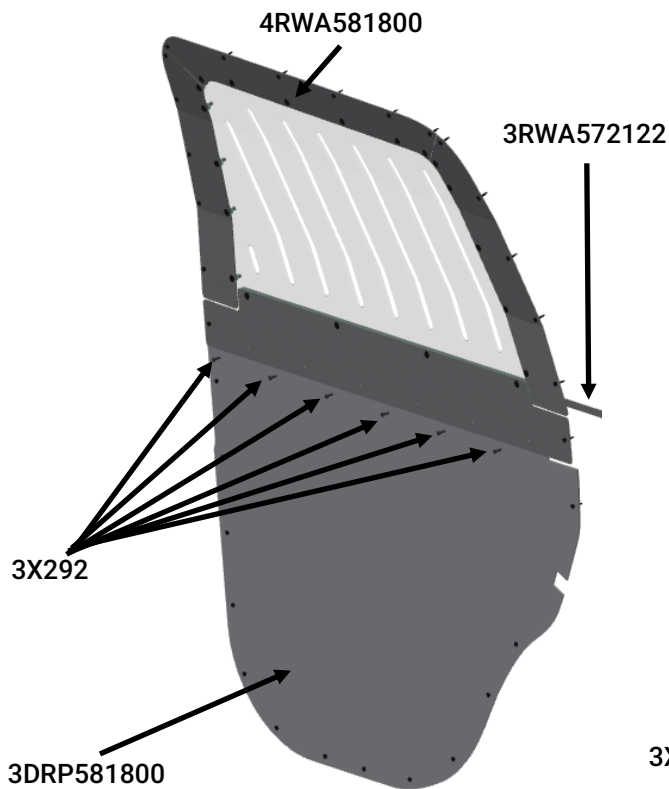

Fig. 2
- A. Assemble Window Bar [4RWA581800] to Door Panel [3DRP581800] using the Door Panel Nut Plate [3RWA572122] and (6) #8 screws [3X292]. (Fig. 2)
- B. Repeat for the opposite side using Window Bar [4RWA581801], Door Panel [3DRP581801], the second Nut Plate [3RWA572122] and the remaining (6) #8 screws [3X292].